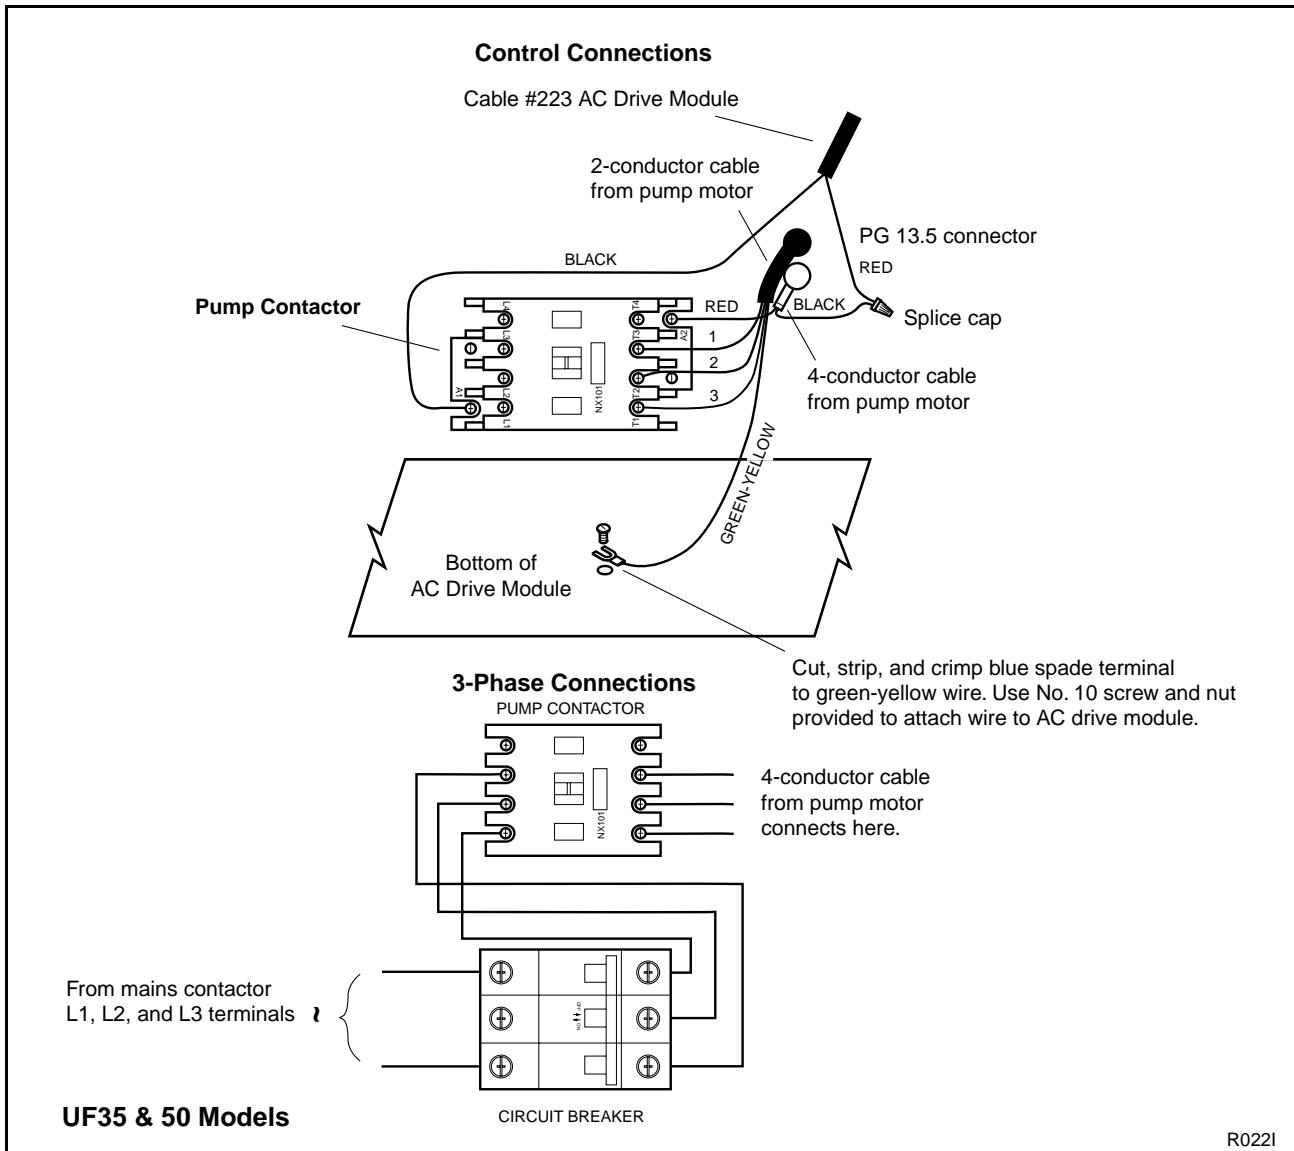
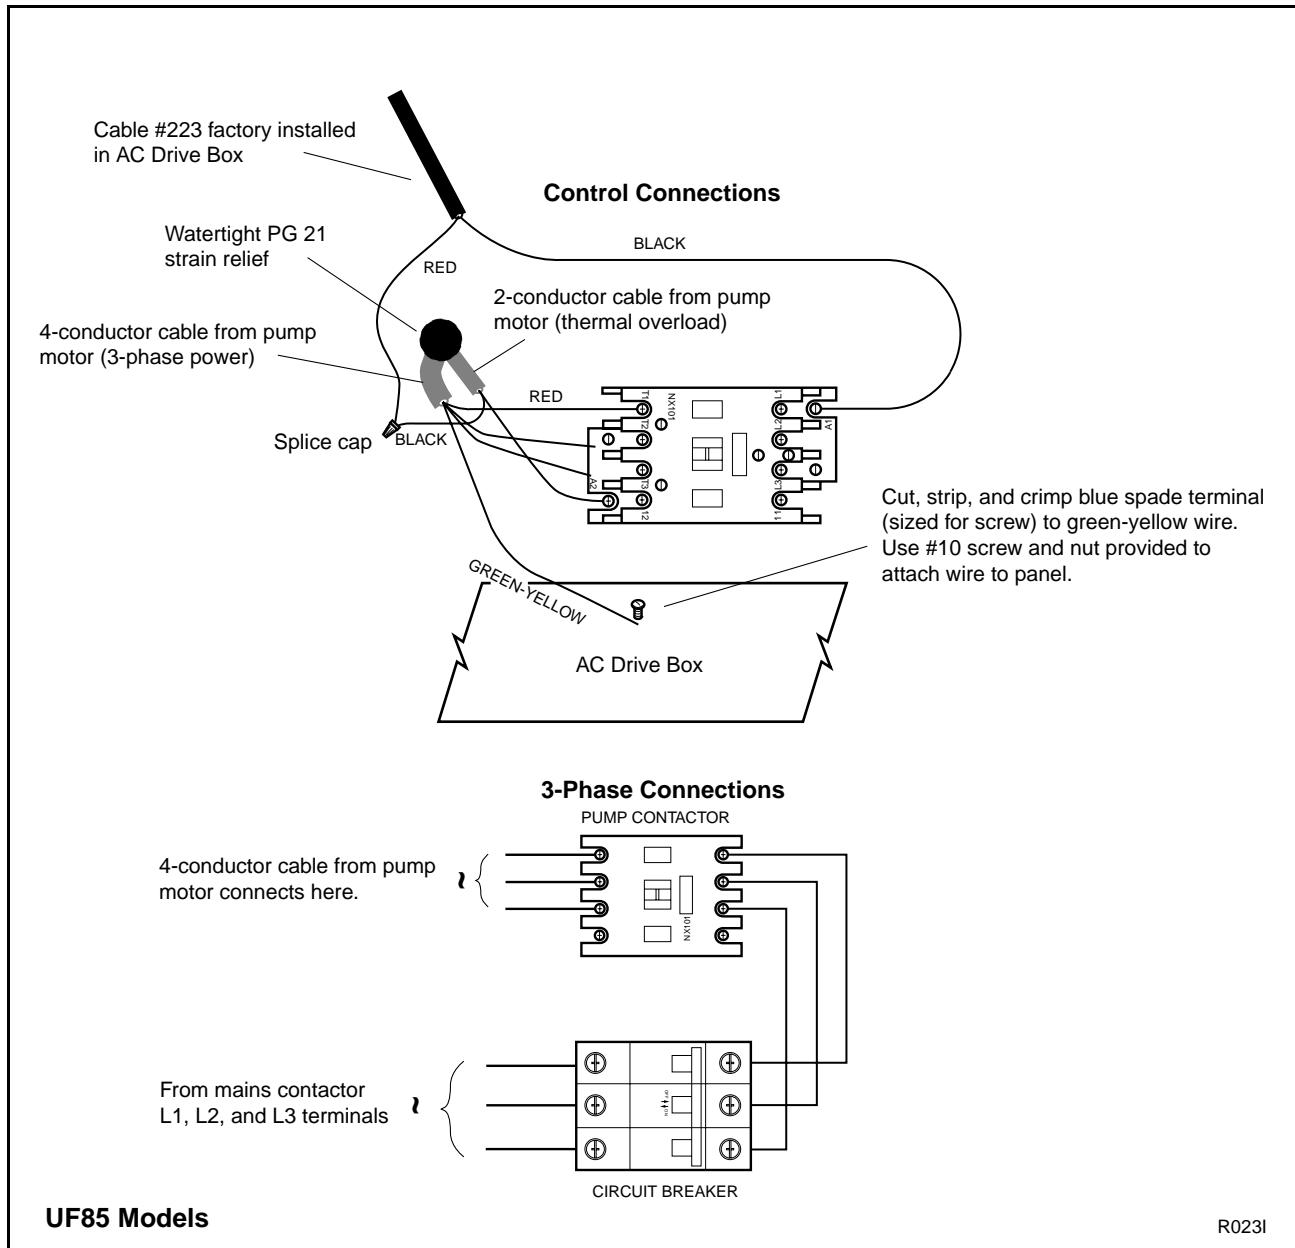

Figure 23
Figure 24
- b. *On the 35- and 50-pound models,* install two PG 13.5 watertight strain reliefs, included in the kit, in place of each of the top two plugs. See Figure 23. *On the 85-pound models,* install the PG 21 strain relief in place of the second plug from the top. See Figure 24.
d. *One the 35- and 50-pound models,* route the 2-conductor and 4-conductor cable through the two PG 13.5 strain reliefs installed in step b. See Figure 23. *On the 85-pound model,* route both the 2-conductor cable and the 4-conductor cable through the PG 21 strain relief as shown in Figure 24.
e. Connect red wire in the 2-conductor cable from the canister/filter/pump assembly to terminal A2 of the pump contactor. See Figure 23.